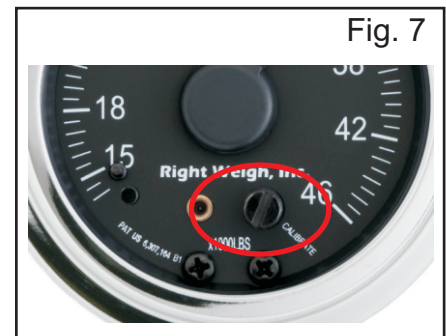

Fig. 7
**Step 7:** Using a small flat head screwdriver, turn the calibration screw on the dial face until the gauge matches the certified scale weight. (Fig. 7)